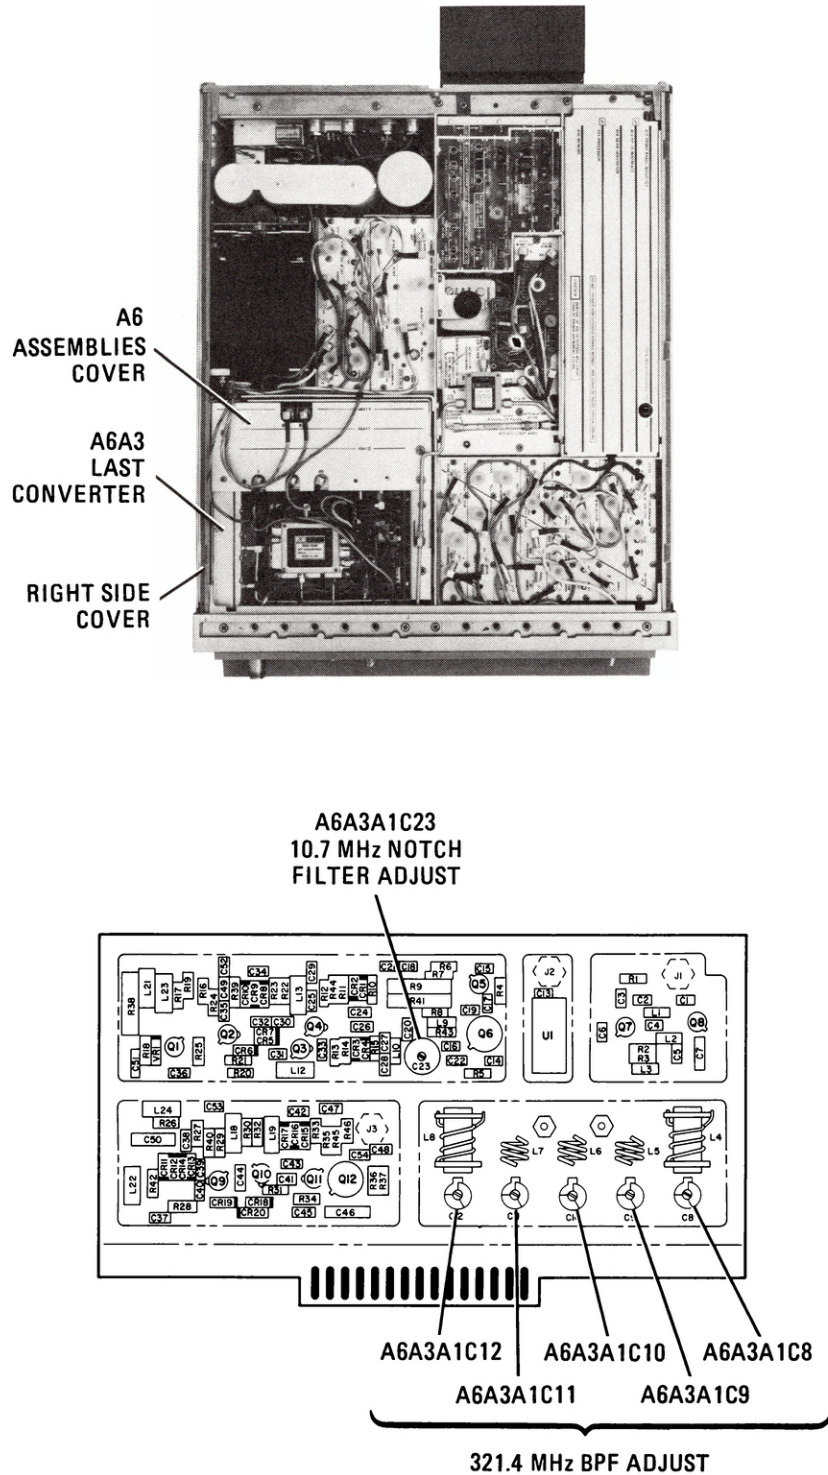

Figure 5-63. Location of Last Converter Adjustments
4. Adjust A6A3 Bandpass Filter Adjustments A6A3A1C8, C9, C10, C11, and C12 to maximum capacitance position (plates fully meshed). Refer to Figure 5-63 for location of adjustments.